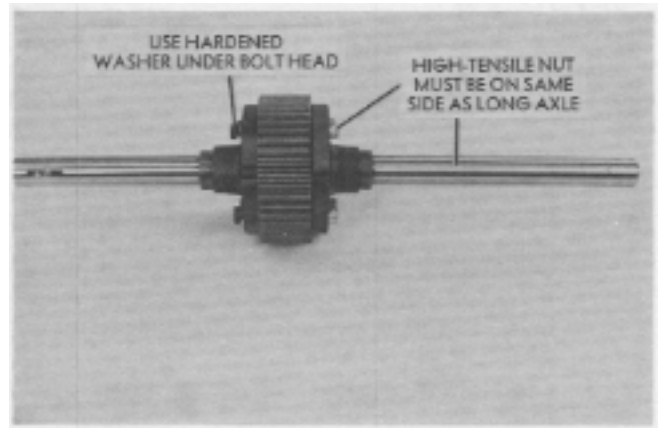

FIG. 41. Differential Assembly
3. Use new nuts when reassembling, which are special high-tensile parts. Use new Grade 8 bolts, also, if necessary. Note location of hardened washers and direction of bolt installation (Fig. 41). Torque bolts to 30-35 ft. lbs.